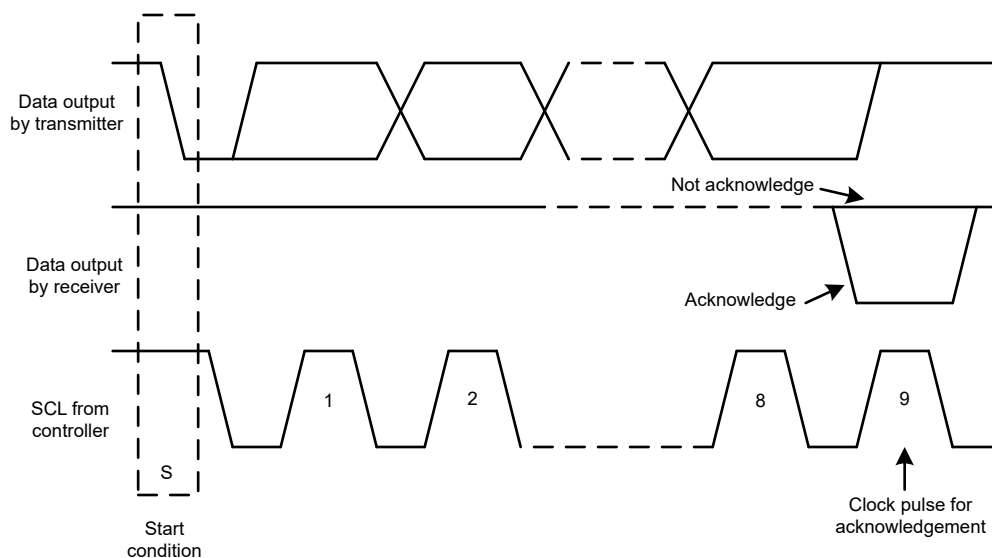
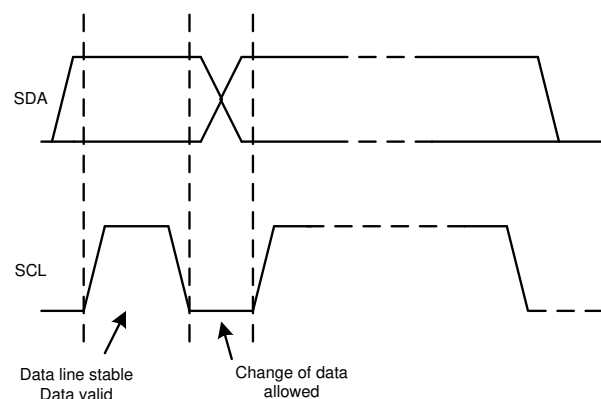

Figure 7-15. Acknowledge and Not Acknowledge on the I²C Bus
Figure 7-17. Bit Transfer on the I²C Bus
Other than specific timing signals, the I²C interface works with serial bytes. At the end of each byte, a ninth clock cycle generates and detects an acknowledge signal. An acknowledge is when the SDA line is pulled low during the high period of the ninth clock cycle. A not-acknowledge is when the SDA line is left high during the high period of the ninth clock cycle, as shown in Figure 7-15.
2. The controller then generates the SCL pulses, and transmits the 7-bit address and the read/write direction bit (R/\bar{W}) on the SDA line. During all transmissions, the controller makes sure that data are valid. A valid data condition requires the SDA line to be stable during the entire high period of the clock pulse, as shown in Figure 7-17. All devices recognize the address sent by the controller and compare the address to the respective internal fixed address. Only the target device with a matching address generates an acknowledge by pulling the SDA line low during the entire high period of the 9th SCL cycle, as shown in Figure 7-15. When the controller detects this acknowledge, the communication link with a target has been established.